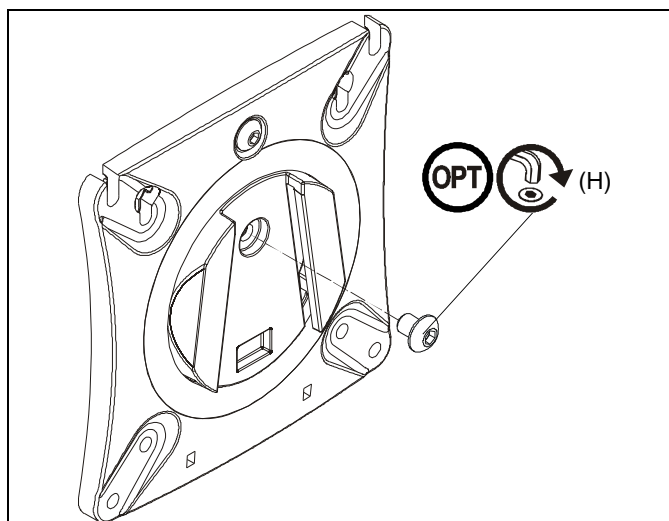

Figure 18
- Adjust pitch to desired tilt position. (See Figure 18)
- Adjust pitch tension screw to change the adjustment tension. (See Figure 18)
- Adjust pivot position as desired. (See Figure 18)
- Use 3/16" hex key (K) to adjust pivot point tension screws to change pivot adjustment tension. (See Figure 18)
**NOTE:** (Optional) Rotational adjustment may be locked by installing rotational locking screw (H) into back of faceplate. (See Figure 18)